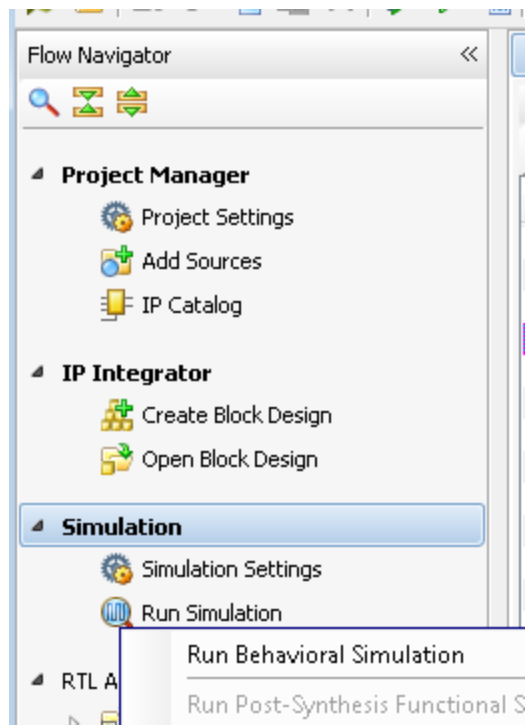

Figure 213: Execute Simulation
10. Click **Run Simulation** in the **Flow Navigator** (Figure 213).